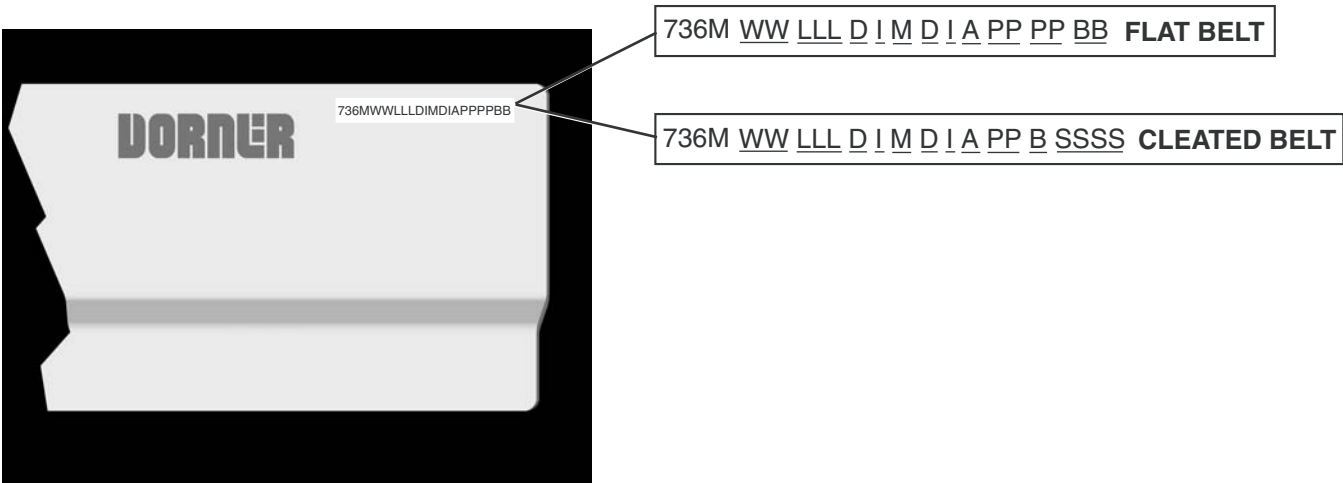

Figure 64
Refer to model number on the conveyor frame (Figure 64). From the model number determine the conveyor width (WW), length (LLL), drive/tail types (A) and belt type (BB). Use data to configure belt part number as indicated below. \*Add “V” for v-guided belts.
Refer to model number on the conveyor frame (Figure 64). From the model number determine the conveyor width (WW), length (LLL), cleat type (C) and cleat spacing (SSSS). Use data to configure belt part number as indicated below. \*Add “V” for v-guided belts.